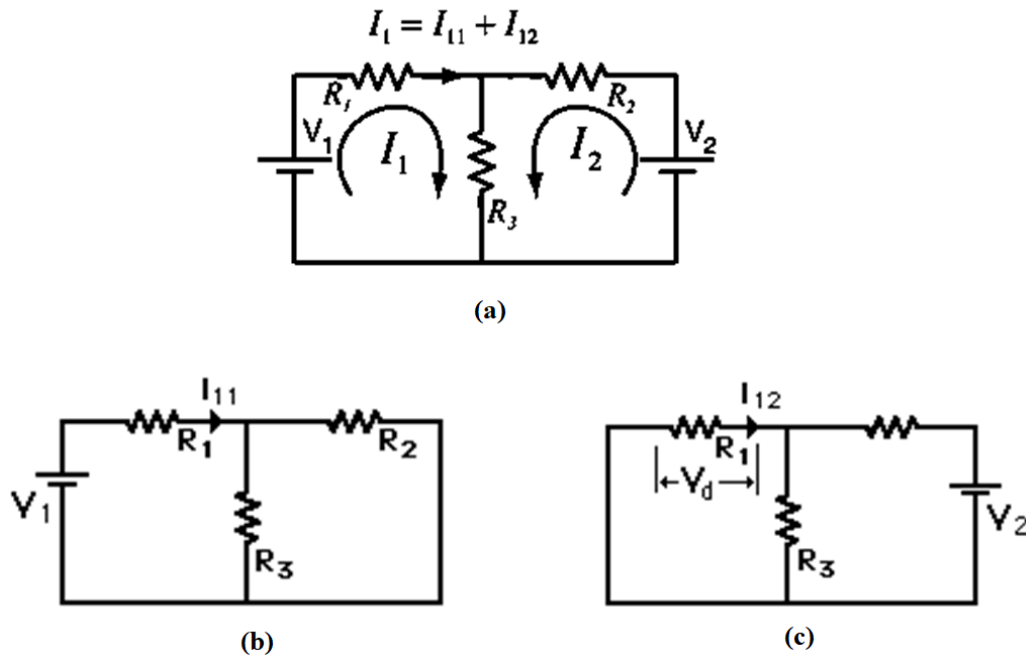

Fig. 4: (a) Circuit with two voltage sources with current direction, (b) considering voltage source V_1 , (c) Considering voltage source V_2
- i) Connect the circuit on bread board as shown in Fig.4